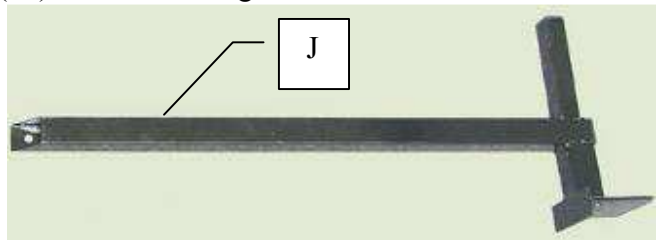

FIG. 2
A. R Lifting Arm (x2) B. Resting Arm C. Mounting Base (male side) (x2) D. Clamp Plate (x4) E. Right Arm Guide (x2) F. Left Arm Guide (x2) G. Handle (x1) H. Strap Loop (x2). Handle Receiver (mirror set of 2) (x 1). In addition, you will also have the Cross-Bar Extension (x2) as shown in Fig. 2.
2. **Assemble Handle Assembly.** Examine the 2 Handle Receivers (I). Notice also that each end of the Handle Receivers is a mirror image of the other. Lay the two Handle Receivers down on the ground with the Handle (G) between them so they form a line. Ensure that the plates with the two holes in them are on the each end and are flat on the ground. Slide each end of the Handle into the end of the Handle Receivers so that the holes in the Handle and Receivers align. Pick up a Strap-Loop and place it down on the assembly so that the 3/8-inch hole in each loop aligns with the holes in the Handle and Receiver. Place a nylon washer under the head of a 2-inch button-head cap screw and then insert the screw down through the parts and affix them together using a metal washer and nylon lock nut on the other side as shown in Figs. 2 and 3.